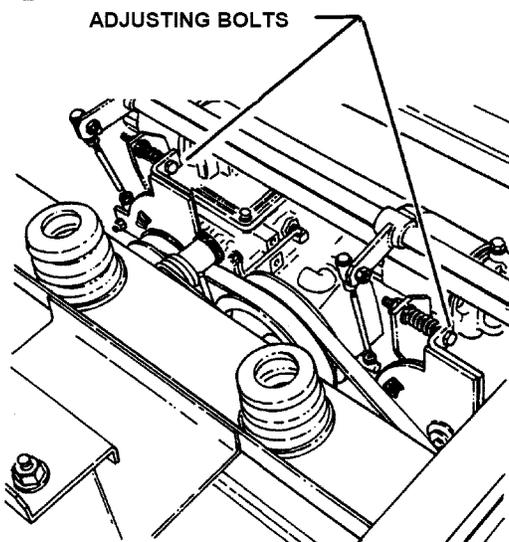

FIGURE 4.1
7. If wheel(s) are rotating, disconnect transmission control rods from cross shaft and turn adjusting bolts located on pump(s) clockwise, or counter-clockwise, until wheel(s) stop rotating. See Figures 4.1 and 4.1A.